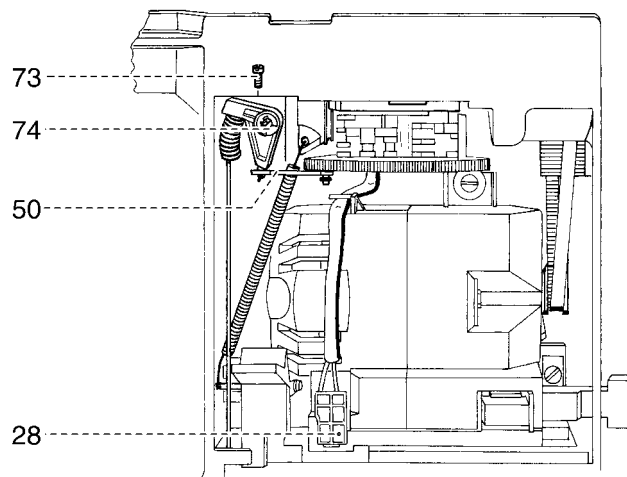

Fig. 28
In its basic position the setting eccentric must point downwards (fig. 28).
- Loosen screw 73 (fig. 28).